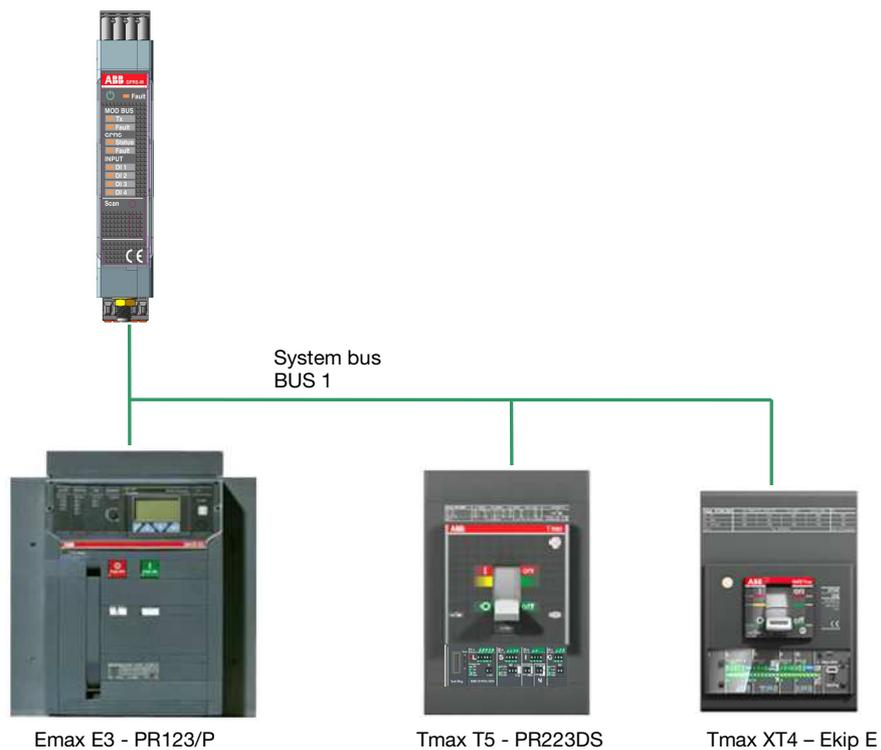

Figure 2
- Connection via system bus (BUS 1): Ekip GPRS-M is connected to circuit breaker equipped with electronic protection units (provided with optional Modbus RTU communication module) via Modbus RTU communications network. For the proper functioning of the communication bus, a 24 Vdc power supply with galvanic insulation is required (refer to the instruction manual of each electronic protection unit). In this case Ekip GPRS-M acts as master of communication network; trip units connected to the network must have the same communication parameters (baud rate, parity, physical protocol) and different Modbus serial address. To configure the communication parameters of protection units refer to the instructions manual. It is possible to connect up to 15 circuit breakers to a single Ekip GPRS-M on the same communication network. Pressing the SCAN button (see Par. 2 - Scan pushbutton), Ekip GPRS-M will automatically search for devices connected to the network and immediately starts monitoring. Refer to Figure 2.